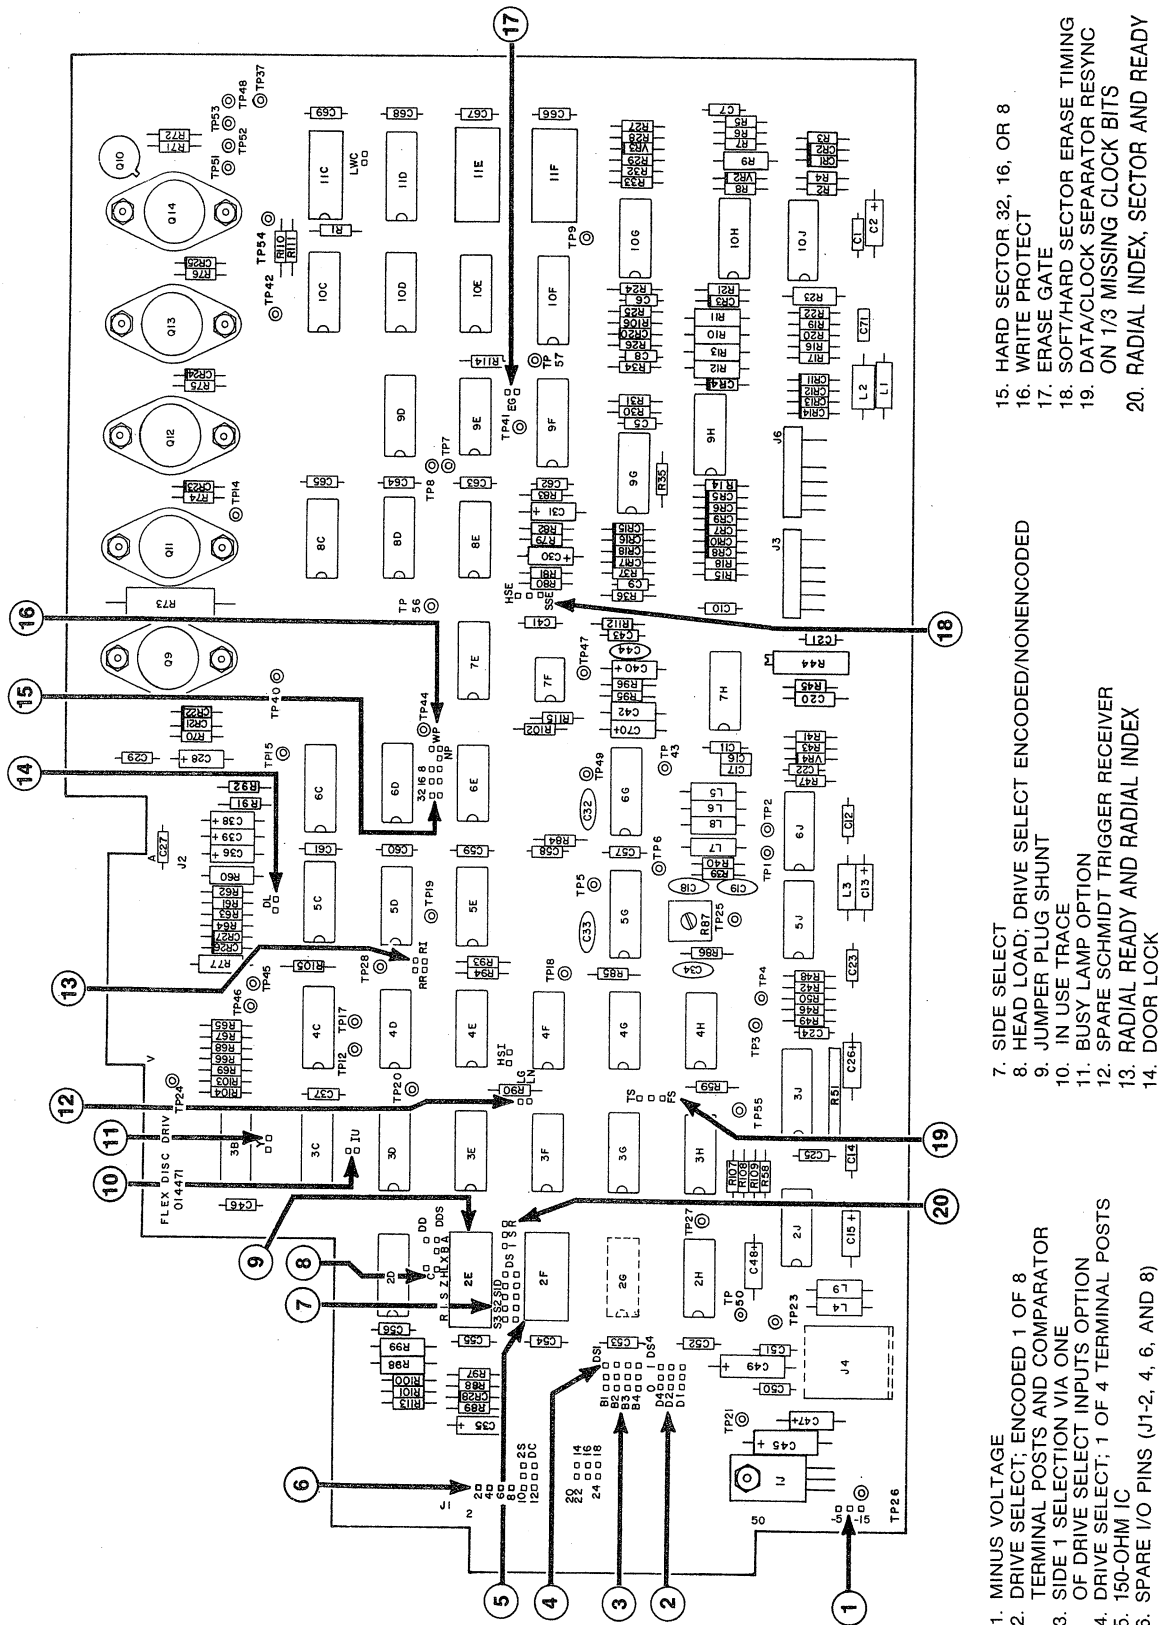

FIGURE 3-1. PCB COMPONENT LOCATION
The following paragraphs describe the implementation of customer-installable options in the 550/552 and define the standard configuration as shipped from Memorex. Refer to Figure 3-1 and Table 3-1 for locations and designations of all components described in the procedures.
2. Jumper wire from the C terminal post nearest PCB DIP location 2E to a spare I/O pin at J1 (e.g., pins J1-2, 4, 6, or 8). See Figure 3-1.